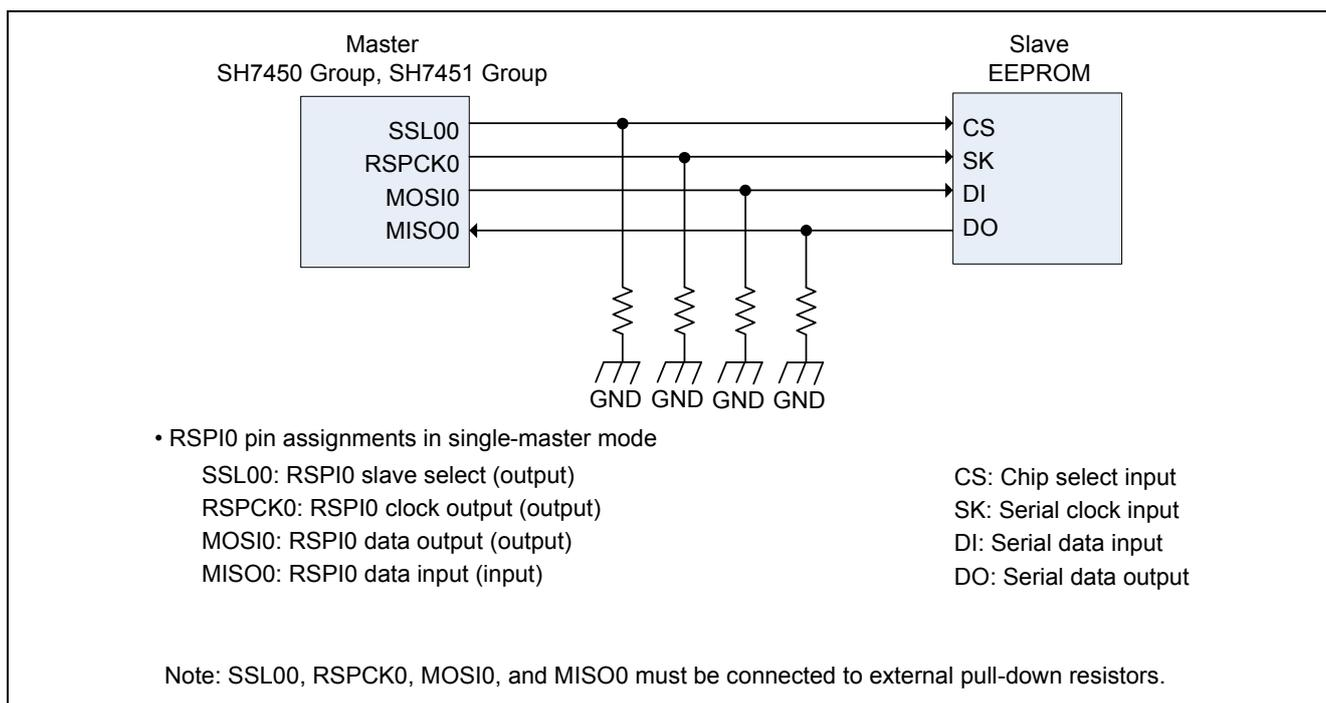

Figure 1.1 RSPI and EEPROM Connection Example
- The RSPI of the SH7450 Group and SH7451 Group is connected to the EEPROM via a four-wire serial interface. Figure 1.1 shows a connection example.